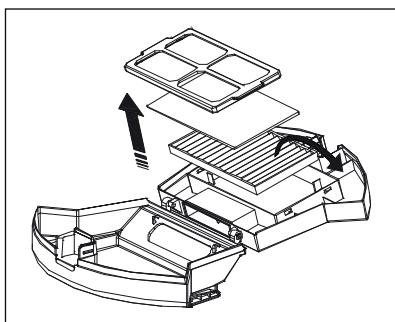

Fig. 10
- 4) Grasp the two tabs on the sieve filter and pull it off the EPA filter compartment 7. Pull the EPA filter 7 and the foam filter by the tap out of the compartment (see Fig. 10).